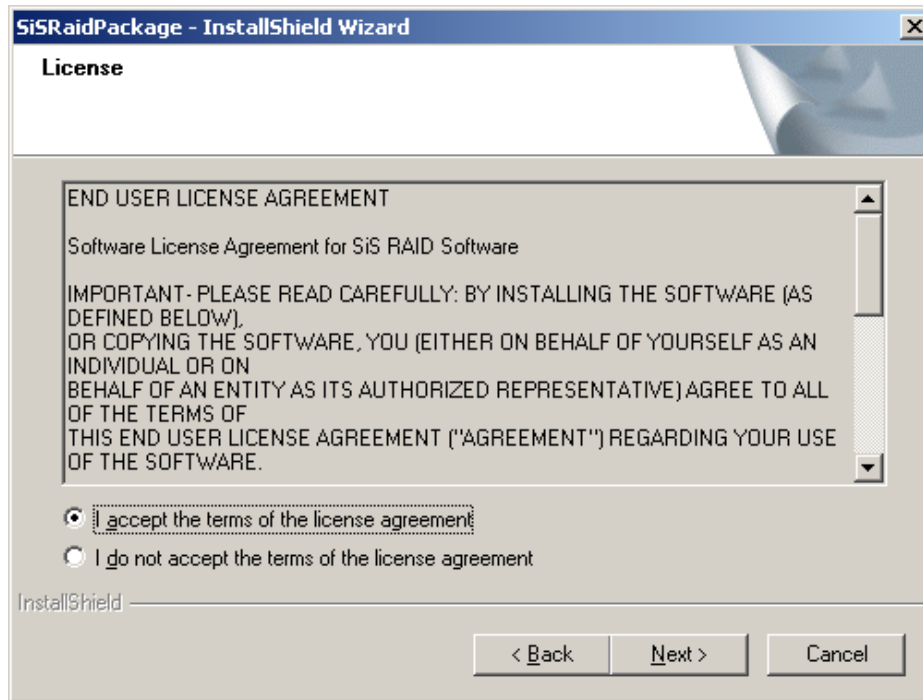

Figure 6-31: License Agreement
Step 7: Click **NEXT** and a **License Agreement** screen appears (**Figure 6-31**). Read the license agreement.